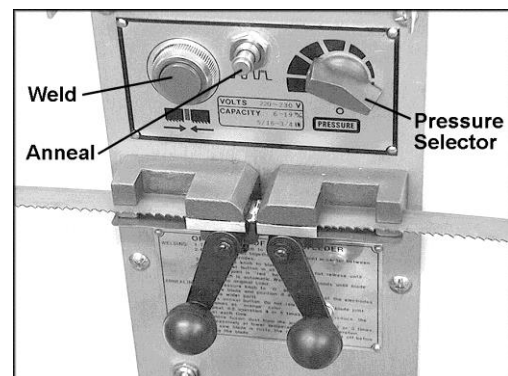

Figure 18
- Insert one end of the blade in the left clamp (Figure 18). Position the back edge of the blade against the back edge of the left clamp. Then position the end of the blade midway between the left and right clamps. Tighten the left clamp.
- Press and hold the weld button (Figure 18). When the weld button is pushed, the left clamp moves to the right to apply pressure to the blade ends. At the same time, sparks will come from the blade ends as they are being welded. Do not release weld button until the blade joint is "red hot."
16. Quickly press and release (jog) the anneal button (Figure 18). Repeat the press-and-release process until you see a slightly red glow from the weld area.